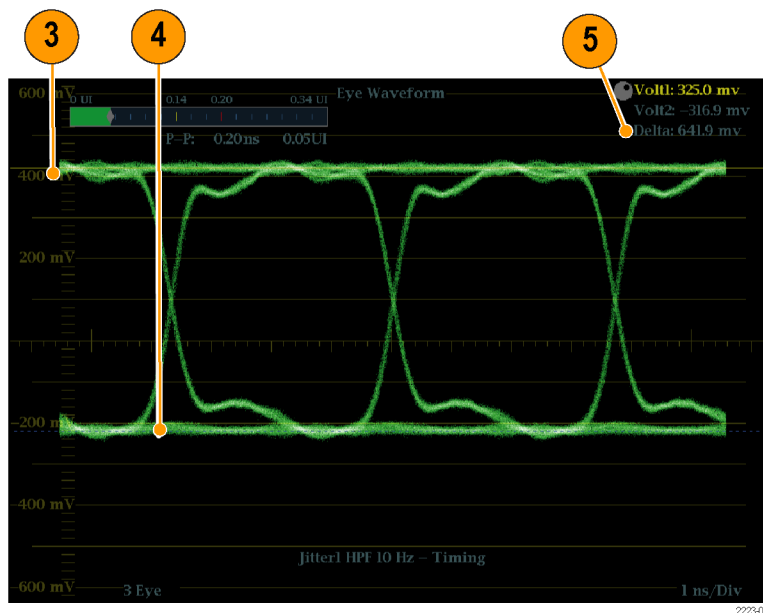

Figure 65: Eye measurement cursor placement
3. Position one voltage cursor at the top part of the waveform, ignoring any overshoot or undershoot on the rising or falling edges. (See Figure 65.)
4. Position one voltage cursor at the bottom part of the waveform, ignoring any overshoot or undershoot on the rising or falling edges. (See Figure 65.)
5. Note the amplitude of the eye waveform that is displayed in the Voltage Cursor readout. (See Figure 65.)